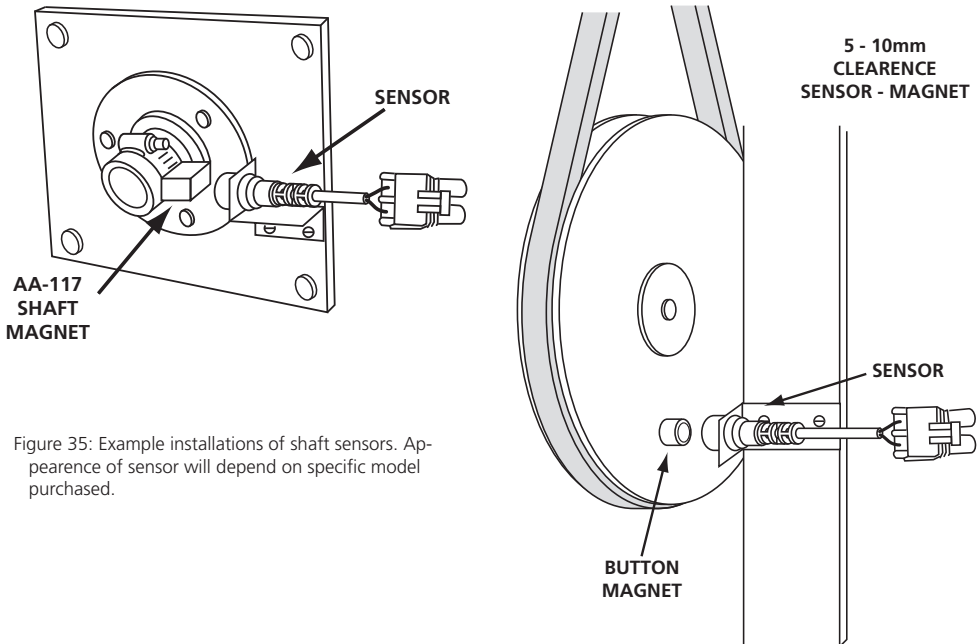

Figure 35: Example installations of shaft sensors. Appearance of sensor will depend on specific model purchased.
1. Ensure shaft sensors and magnets are installed correctly. Examples of correct installation are shown in Figure 35.